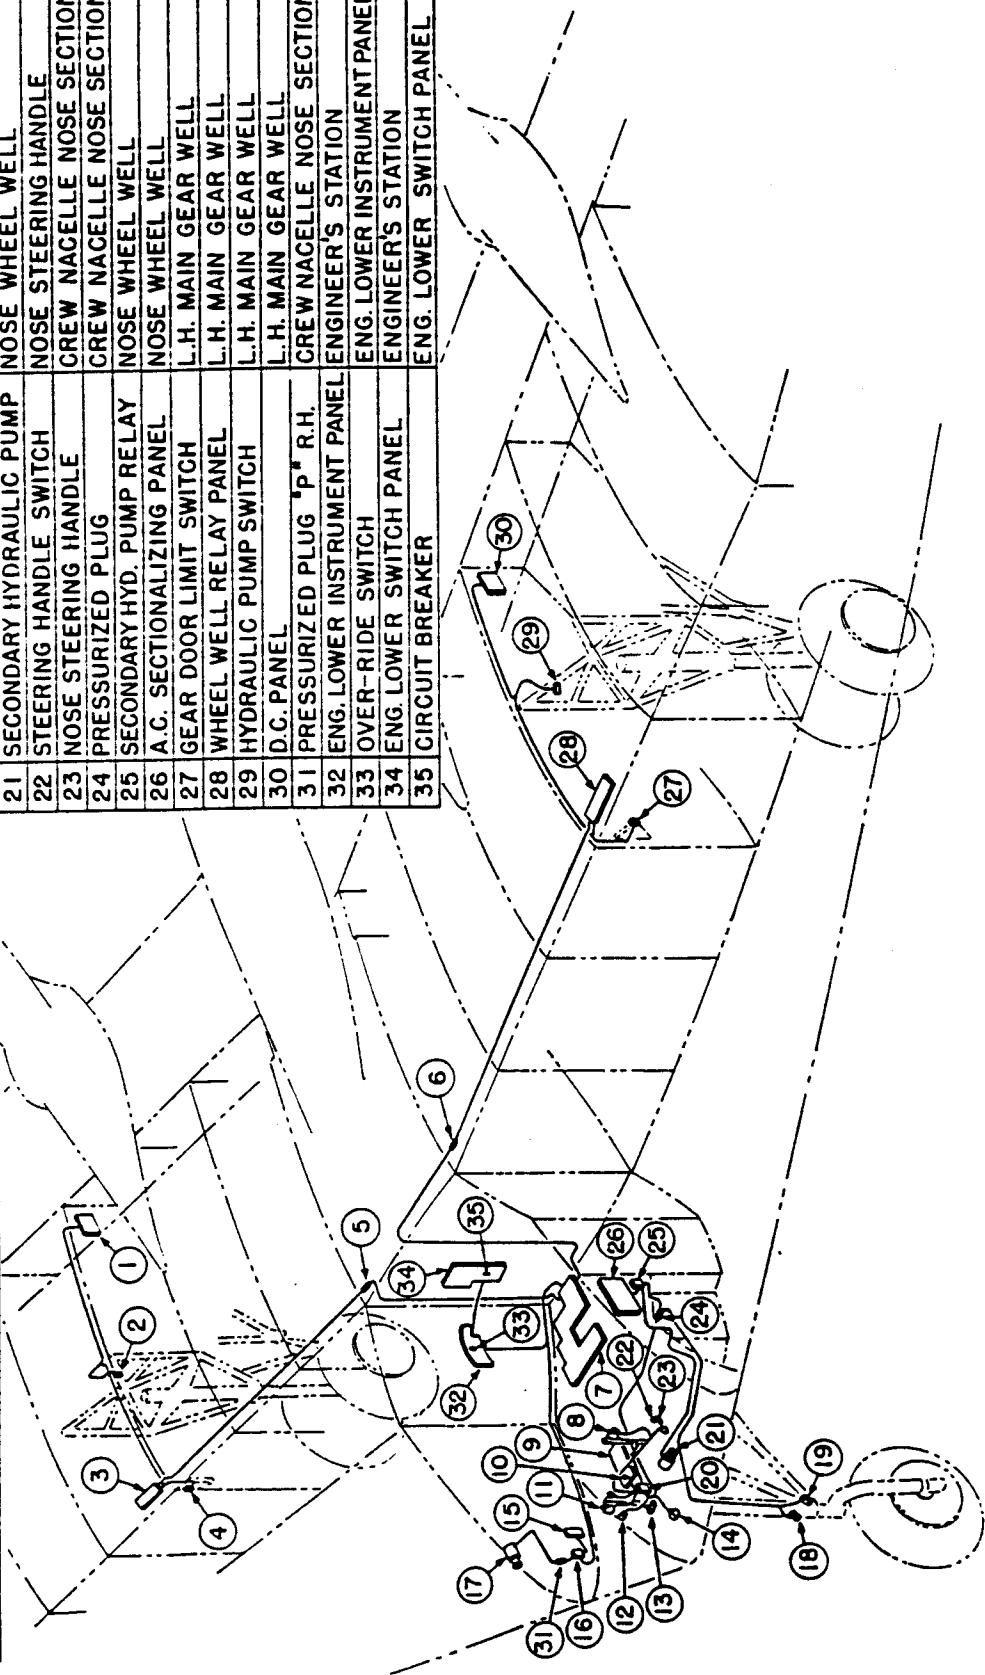

Figure 5. Landing Gear, Brakes, & Nose Wheel Steering Electrical Installation
4. ELECTRICAL. (See figure 5.)